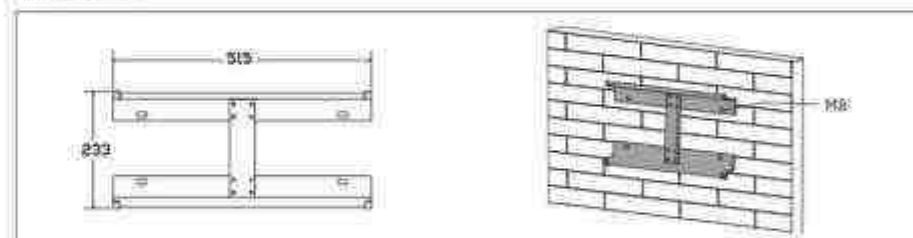

Figure 3.4-1 Install the inverter hanging plate
Step 1: Please use the mounting bracket as a template to drill 5 holes in the right positions (10mm in diameter, and 80mm in depth). Use M8 expansion bolts in accessory box and fix the mounting. With a 12mm drill bracket onto the wall tightly. The installation of inverter support is shown in Figure 3.4-1.